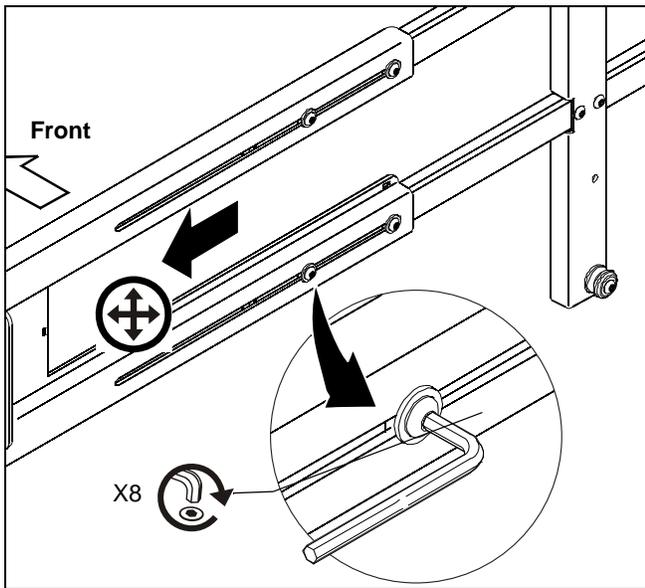

Figure 13
8. Tighten eight button head cap screws to hold speaker mounting rail in place. (See Figure 13)